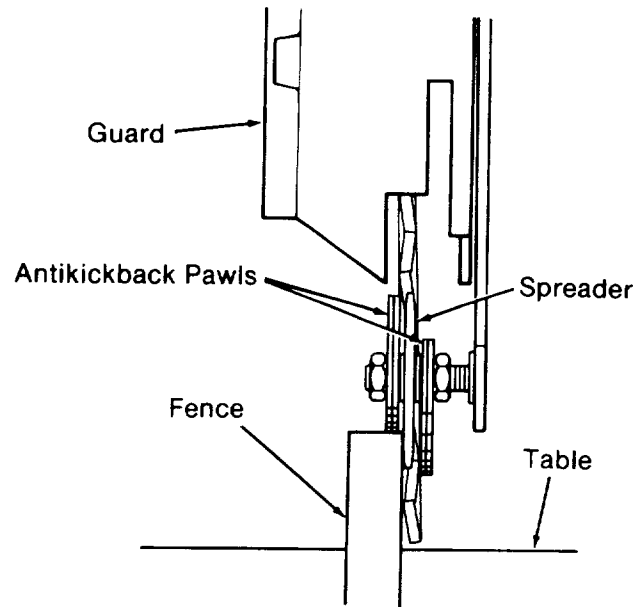

Fig. 104
11. Lower the *spreader* and *anti-kickback pawls* until the *spreader* is against the *fence*, and the *pawls* on one side of the *spreader* are on top of the *fence*. (Figure 104)